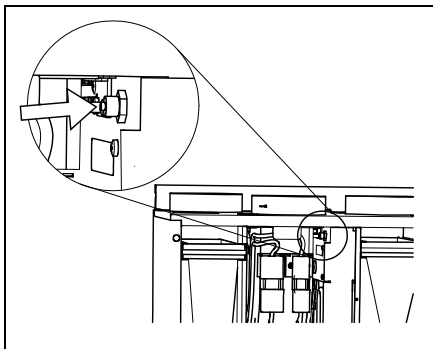

Fig.9
- b) Check if fire thermostat is still alert. If necessary, reset by pressing the red button in the unit (**Fig.9**).